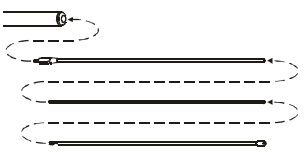

Figure 2
2. Referring to Figure 2 and the following chart, connect the radiating elements according to the operating band, then screw the radiating element securely to the top of the coil assembly of the ATAS-25.